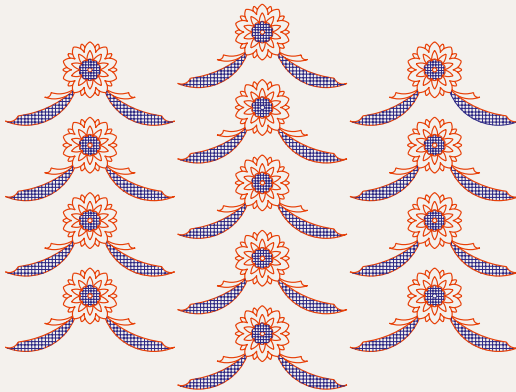

Fig. 10.25 Exercise 1 – original pattern
1. Fig. 10.25 shows a pattern formed by inserting an external reference and then copying or arraying the external reference.